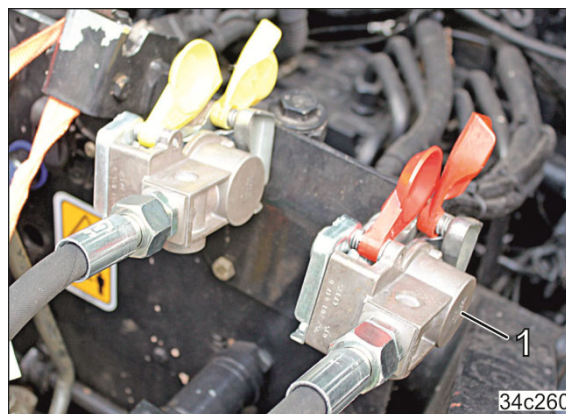

Fig. 126
9. Properly fasten the coupling head of the supply line (red) (Fig. 126/1) in the coupling marked red on the tractor.